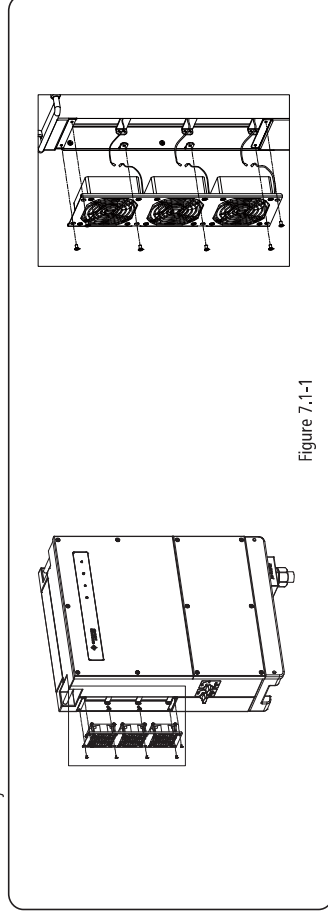

Figure 7.1-1
- Disassembly the fans (refer to Figure 7.1-1).
(1) Loosen the five screws with a crosshead screwdriver, then remove the fans out the cabinet about 50mm slowly.
(2) Open the lockers of the three fans connectors and remove them from housing, then take the fans away.